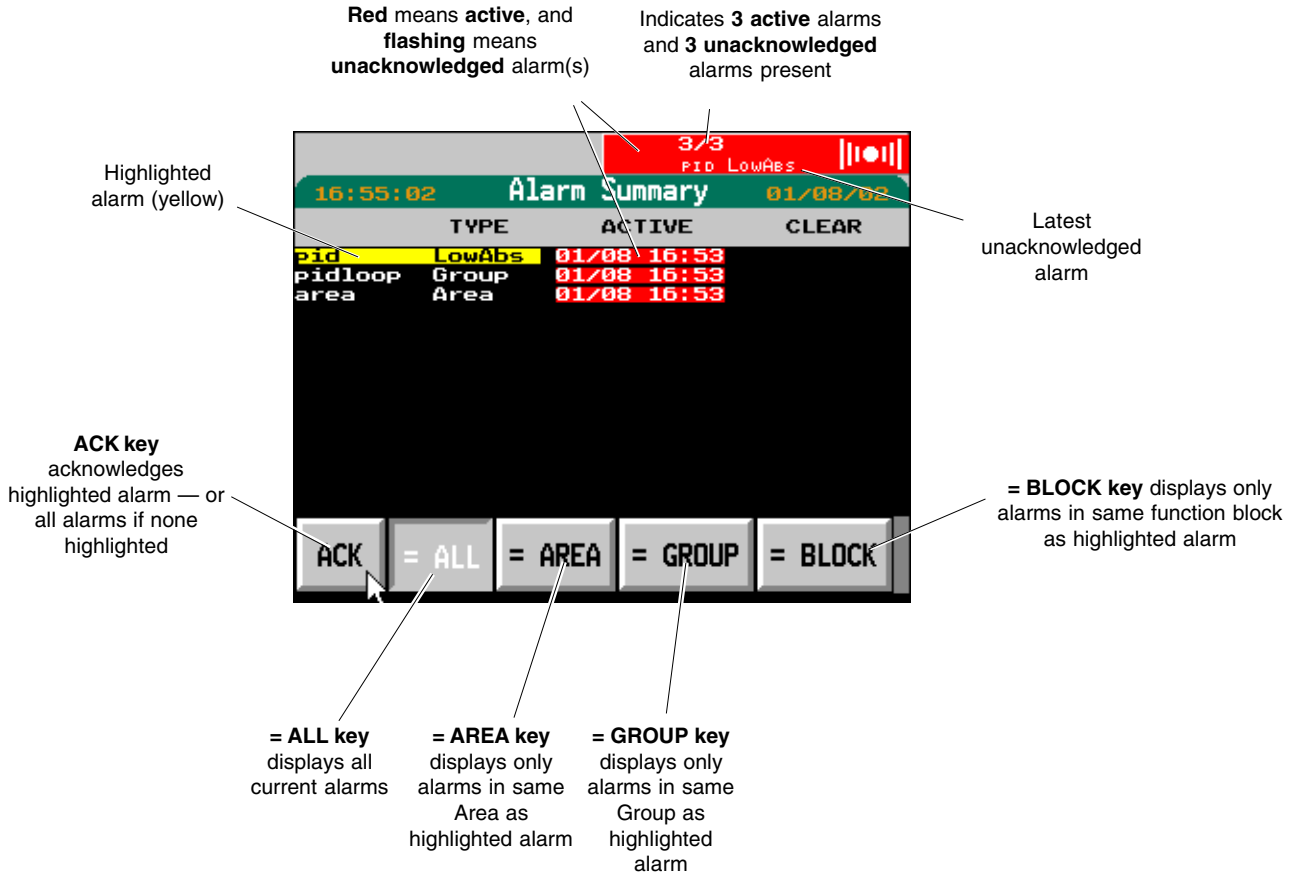

Figure 2-5 Alarm Summary screen
- 2 Now acknowledge one of the still-active alarms. Touch the '**pid LowAbs**' alarm anywhere over its first two columns. It highlights in yellow. Press the **Option** key to see a row of softkeys along the bottom of the screen for working with the Alarm Summary screen. Press **ACK** to acknowledge the **LowAbs** alarm, see Figure 2-5. This alarm item stops flashing (but remains red because the alarm condition still exists), and the alarm pane displays '**3/2**' and the name of the most recent unacknowledged alarm, the next one in the list.